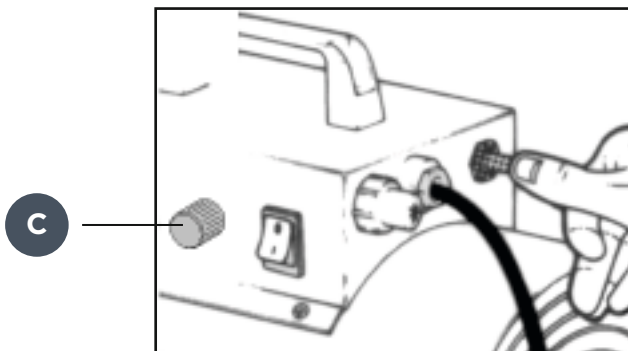

Fig.1
1. Switch the cylinder on (see fig. 1).